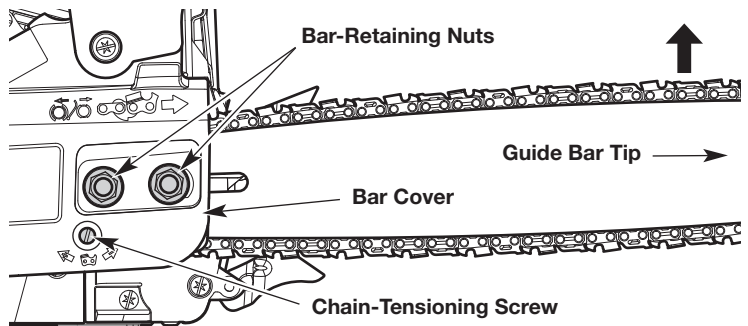

Fig. 27
2. Use the multi-purpose tool or a 1/2 inch (13 mm) wrench to slightly loosen the bar-retaining nuts (Fig. 27). **DO NOT** remove the bar cover.
3. Hold the guide bar tip up and use a flat-head screwdriver to turn the chain-tensioning screw (Fig. 27).